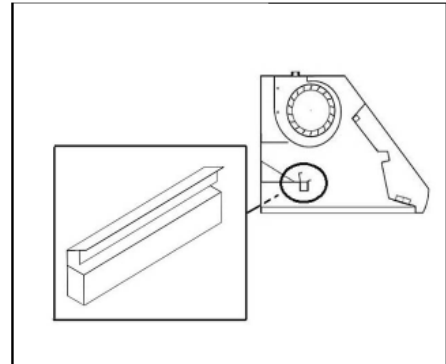

Figure 7
10. Drop oil tunnel into recess support near rear of hood. Refer to Figure 7.